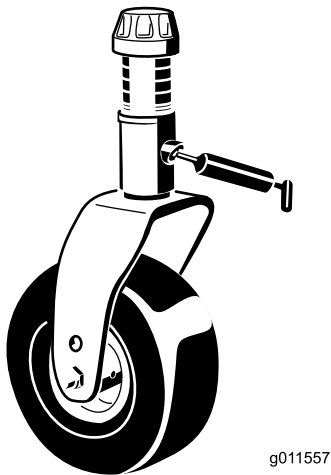

Figure 19
- Castor fork shaft bushings (4) (Figure 19).